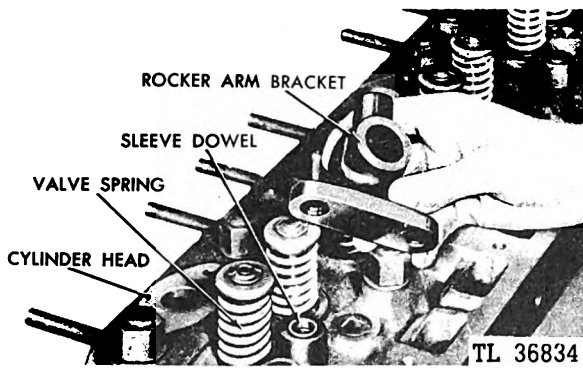

Fig. 182. Installing No. 1 Rocker Arm Bracket
(1) Install the No. 1 rocker arm bracket. Just start the capscrew into the dowel end of the bracket. (See Figure 182.)